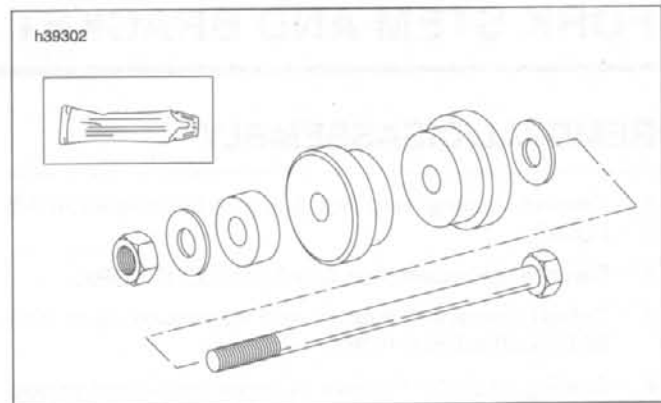

Figure 2-106. Steering Head Bearing Race Installer
1. See Figure 2-106. If removed, install **new** bearing cups into frame steering head using STEERING HEAD BEARING RACE INSTALLER (Part No. HD-39302).